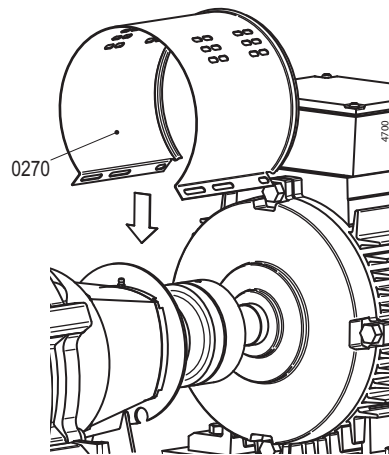

Figure 6: Fitting the jacket at motor side.
- 2 Remove both jackets (0270). See figure 6.